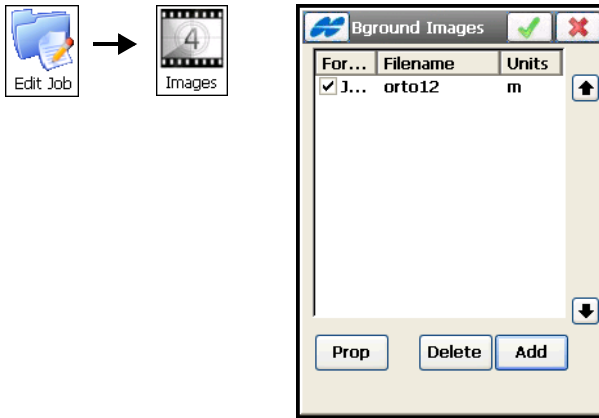

Figure 4-106. Select Background Images
2. On the *Background Images* screen (Figure 4-106) select the image. It is possible to select multiple background images. Using multiple background images is limited by the amount of free space in the controller memory.